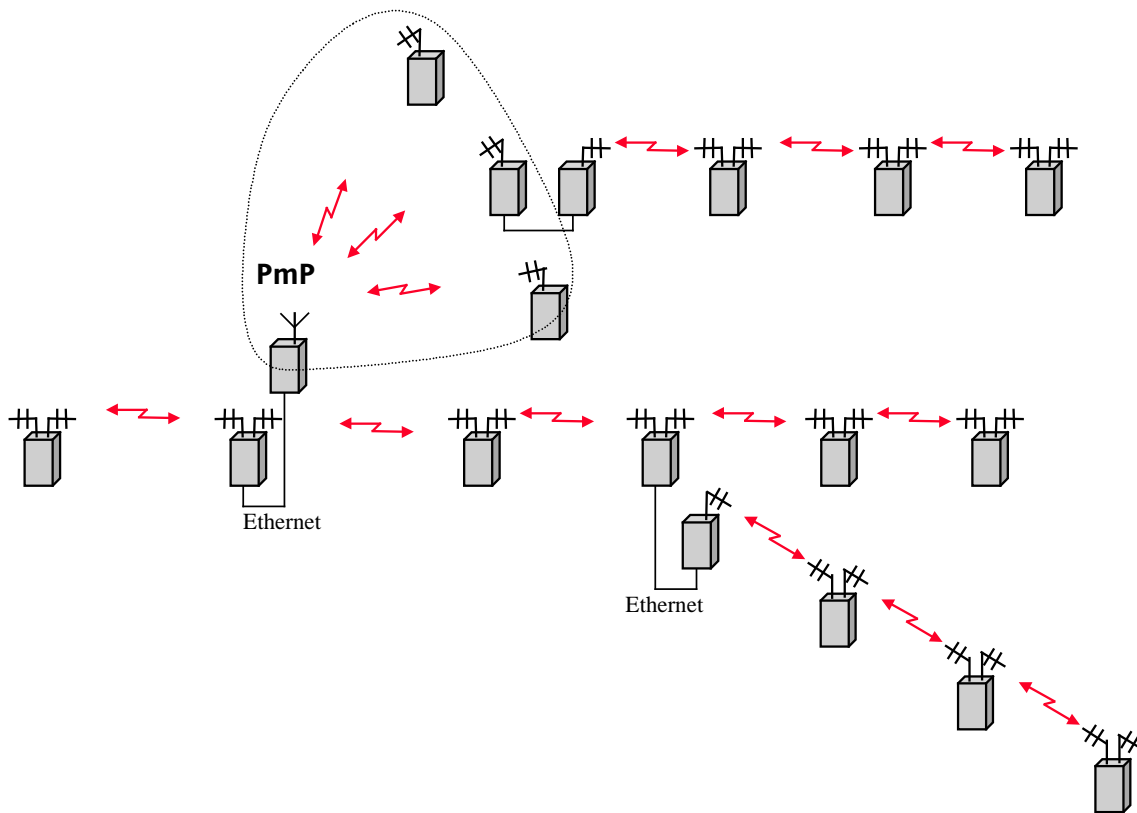

Figure G2 Expanded Network Topology Example
- Figure G2** Expanded Network Topology Example